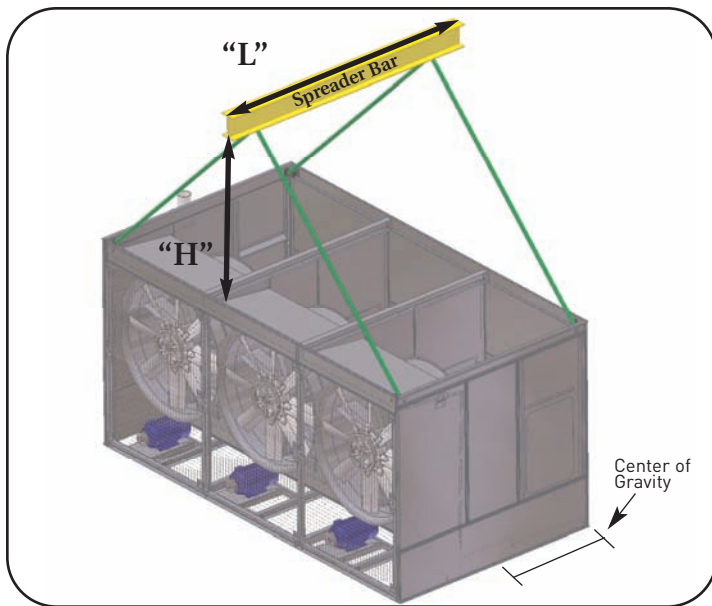

Figure 1
1. Rig the basin section. The rigging hook must be placed above the section's center of gravity as detailed in (Figure 1 and 2).